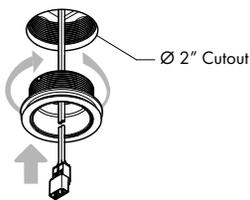

FIG 4.4 Install & Secure Mounting Collar
STEP 4 Make $\varnothing 2"$ hole in mounting surface & install mounting material centered over flange - **FIG 4.4**.